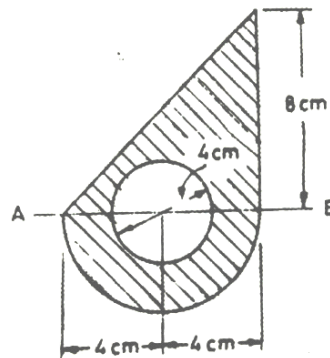

Fig. 7
- (b) Find the moment of inertia of the shaded area (figure 7) with respect to the centroidal axis parallel to AB.